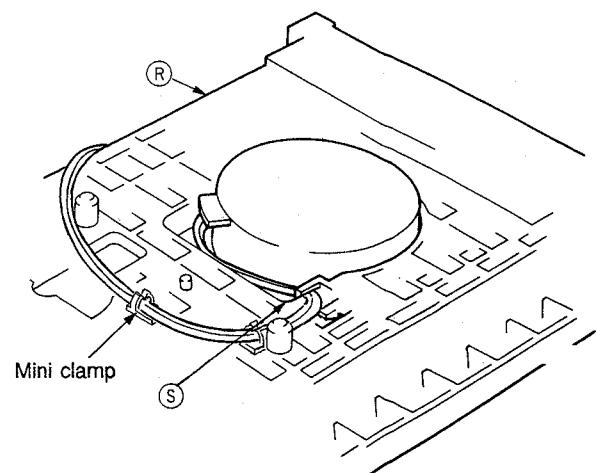

Fig. 2-7
5. Remove the lead wire from the lead wire hook (S) (Fig. 2-7) for the spindle motor at the rear of the mechanism base (R).
4. While the servo-mechanism unit is raised, hook the lead wire from the spindle motor to hook ⑦ (Fig. 2-7) on the rear of the mechanism base ⑫.